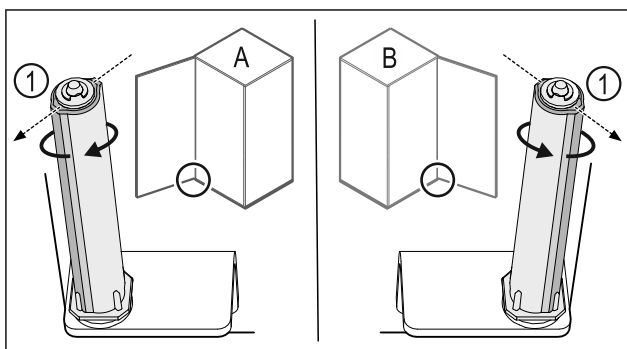

Fig. 39 Left-hinged (A) / Right-hinged (B)
- Turn the closing system against the resistance until the bar of the closing system Fig. 39 (1) points outwards.